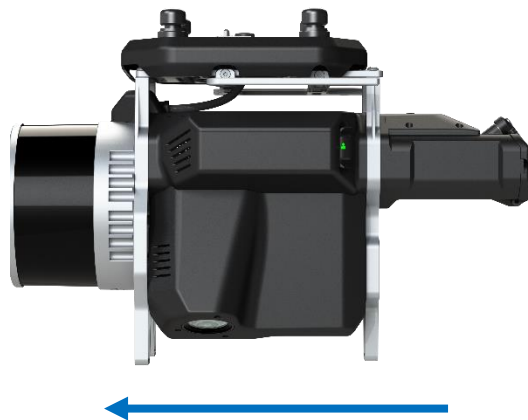

Figure 12. Direction of flight.
3. Align the front of the payload with the front of the drone. See Figure 12 for front orientation.